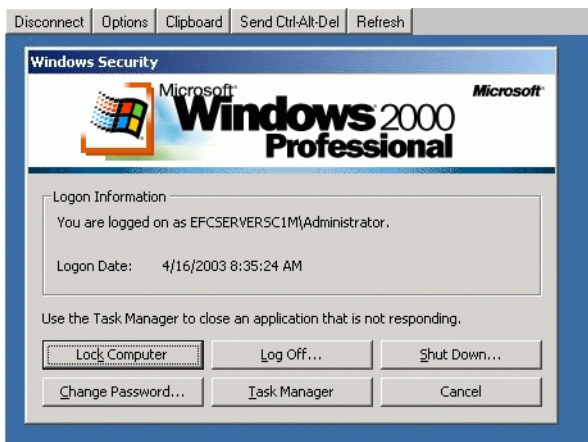

Figure 3-13 Windows Security Dialog Box
- a. At the management server Windows 2000 desktop, click the **Send Ctrl-Alt-Del** button at the top of the window. The *Windows Security* dialog box displays (Figure 3-13).